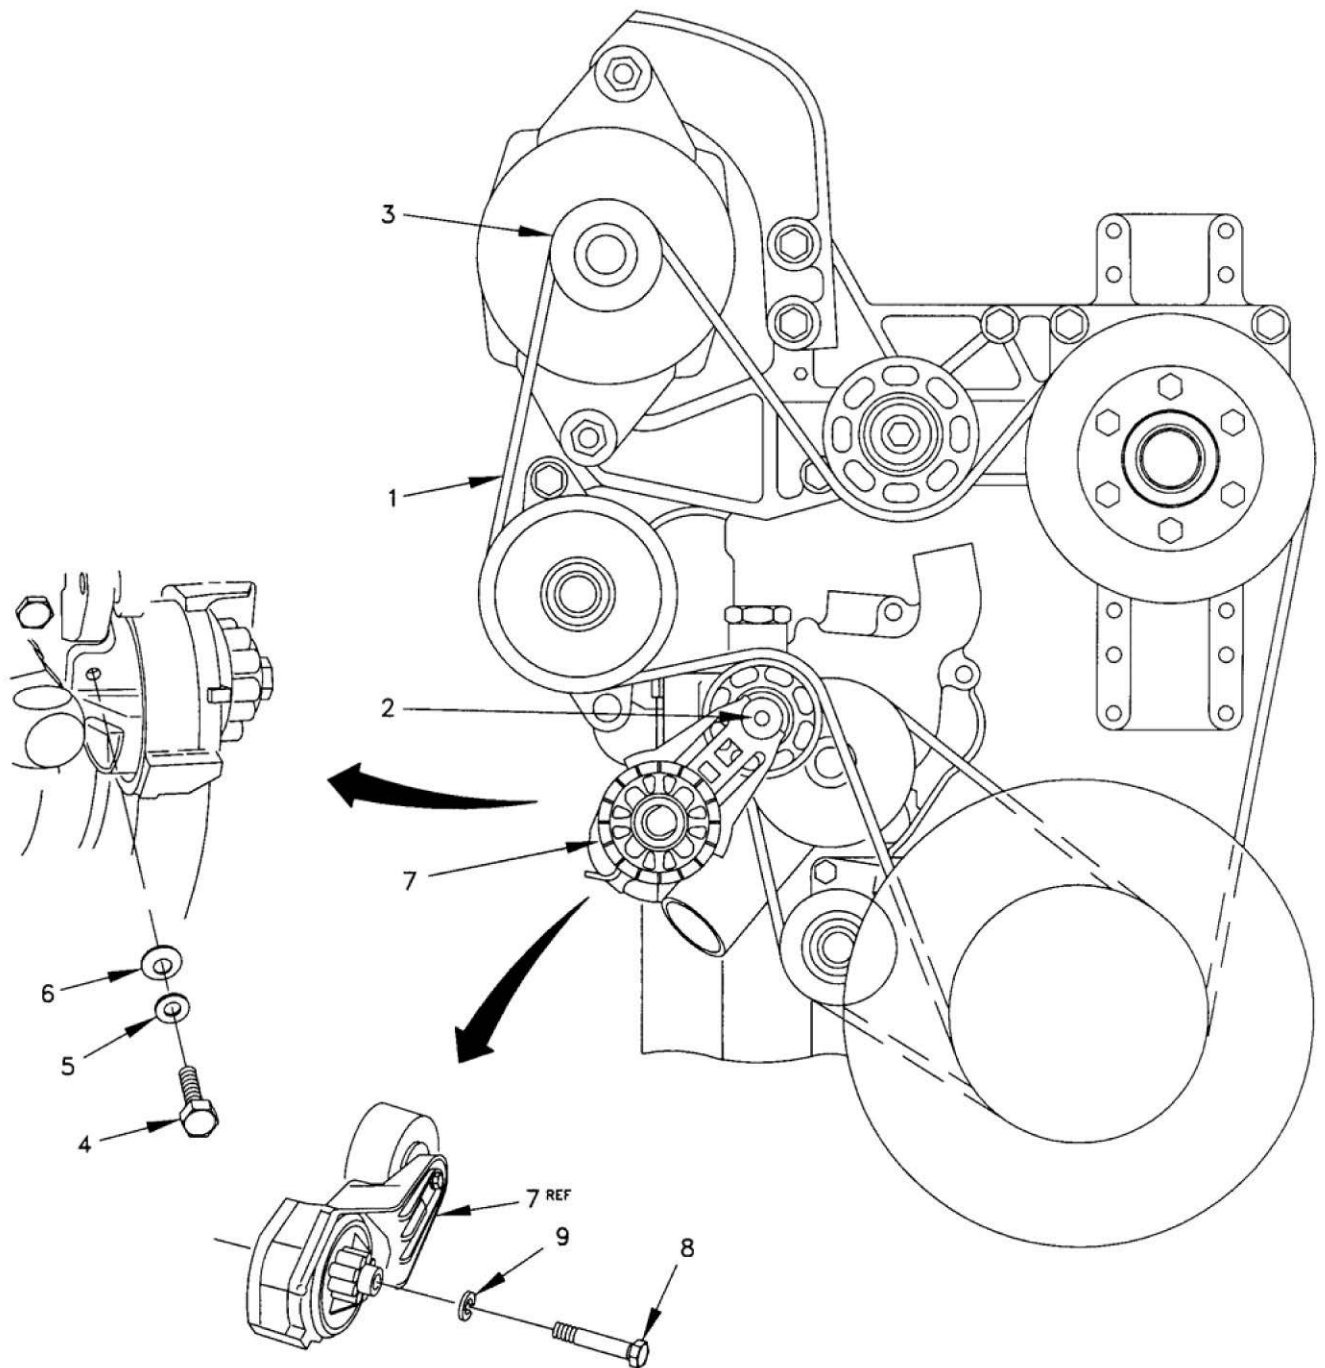

Figure 1. Tensioner.
Note routing of alternator belt (Figure 1, Item 1).
3. Place wrench on tensioner pulley (Figure 1, Item 2) and use to rotate tensioner pulley clockwise (CW) sufficiently to relieve tension on alternator belt (Figure 1, Item 1) and slip belt off alternator pulley (Figure 1, Item 3). Allow tensioner pulley (Figure 1, Item 2) to rotate slowly back into place.
4. Remove bolt (Figure 1, Item 4), washer (Figure 1, Item 5), and sleeve (Figure 1, Item 6) from side of tensioner (Figure 1, Item 7), and remove bolt (Figure 1, Item 8) and washer (Figure 1, Item 9) from front of tensioner, and remove tensioner.
1. Position tensioner (Figure 1, Item 7) on bracket and install washer (Figure 1, Item 9) and bolt (Figure 1, Item 8) on front, and install sleeve (Figure 1, Item 6), washer (Figure 1, Item 5), and bolt (Figure 1, Item 4) on side of tensioner. Tighten bolts.
2. Place wrench on tensioner pulley (Figure 1, Item 2) and use to rotate tensioner pulley clockwise (CW) sufficiently to allow alternator belt (Figure 1, Item 1) to be slipped on alternator pulley (Figure 1, Item 3). Allow tensioner pulley (Figure 1, Item 2) to rotate slowly back into place.
3. Check alternator belt (Figure 1, Item 1) for correct routing and to be sure the belt is firmly seated in all pulley grooves.